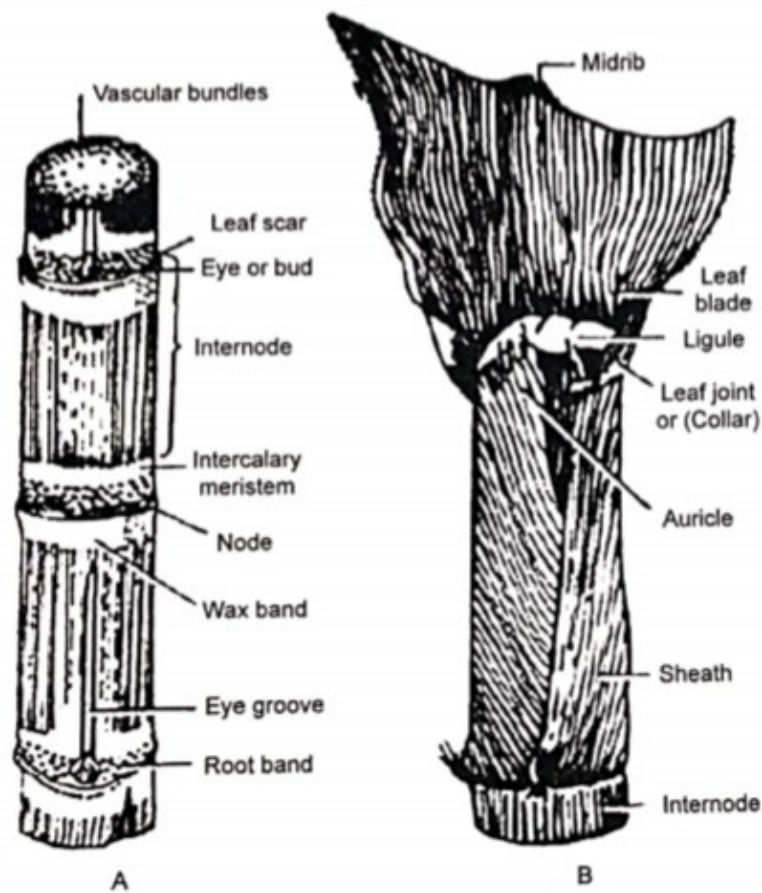

Figure 4.2 Diagram of (A) a piece of cane stalk consisting of two complete joints and part of two adjacent joints; (B) structure of the leaf.
S. officinarum, the sugarcane plant, is a perennial rhizomatous giant grass with a thick solid aerial stem 3 to 8 m tall and usually 3.8 to 6.0 cm in diameter (Figure 4.1). Canes measuring up to 12.8 m in height have been recorded and are often propped with bamboo stakes. It grows in clumps (stands). The colour of the cane ranges from almost white to yellow to deep green, purple-red or violet. The stem is jointed, the joints being shorter at the base, gradually increasing both in length and thickness upward until a maximum is reached beyond which they become progressively smaller and finally terminate in an inflorescence. A cane joint consists of five conspicuous parts: a). a node—the area where the leaf sheath is attached to the stem; b). the root band composed of several rows of minute translucent dots—the root initials or root primordia; c). the intercalary meristem, a narrow meristematic zone just above the root band that is responsible for the growth of the internode d). the internode—a barrel-shaped structure covered with a fairly thick waxy bloom and e). the lateral buds placed alternately on opposite sides of the stem and protected from damage by the leaf sheath that forms a tight covering around the internode (Figure 4.2 A).